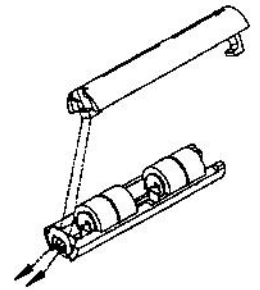

Figure 5-3: Battery pack
3. To open the battery pack, lift up on the long tab located at the end of the pack (see Figure 5-3). Replace the batteries in the pack, making sure the polarity of the batteries match the markings on the connector strip.
4. To close the pack, hook the short tab into the end slot of the pack as shown in Figure 5-3. Snap the long tab closed.